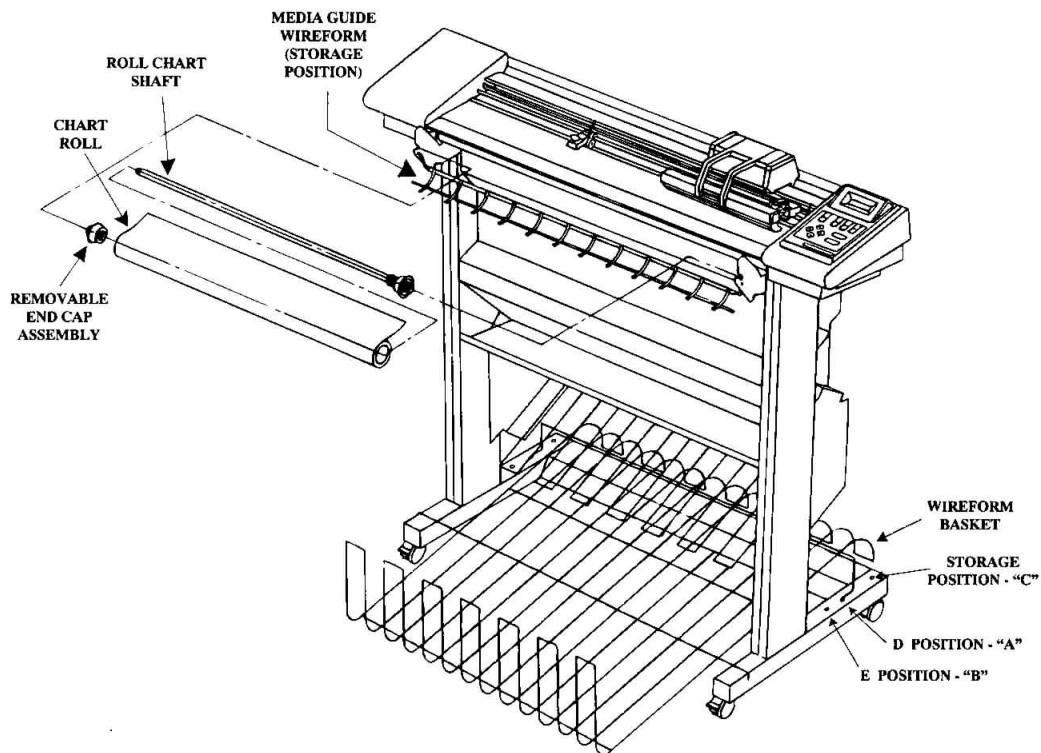

FIGURE 1-7. INSTALLING ROLL SHAFT WITH ROLL
- To load a roll chart on the DMP-162R plotter, make sure the media guide wireform is in its storage position. Also make sure the wireform basket is in its correct position for the size of media you are loading (storage position for a roll chart smaller than a size D, D position for a D-size roll chart, or E position for an E-size roll chart). See Figure 1-7.
Check the end of the roll that will be nearest the plotter's control panel to be sure that the end is smooth and undamaged. Remove the roll chart shaft from the plotter and load the roll onto the shaft assembly. Place shaft assembly with roll on plotter. See Figure 1-7.